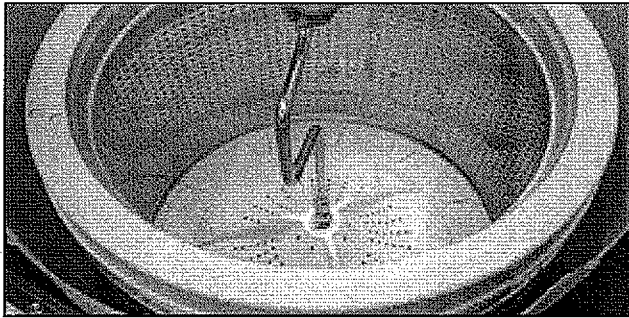

FIGURE 3
6. Remove 7/16" bolt. Lift and remove basket assembly with wash plate/agitator. See Figure 3.